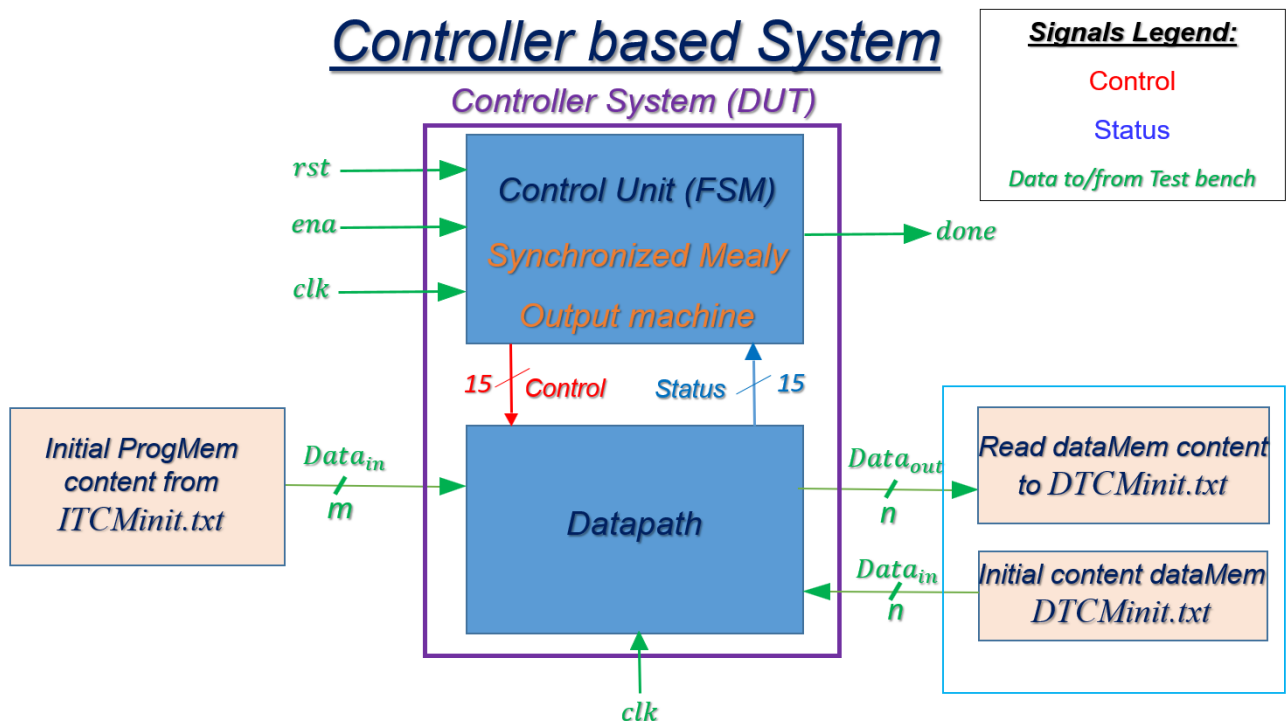

Figure 1: Overall DUT structure
- As depicted in figure 1, in order to simulate the system DUT we use file based simulation.